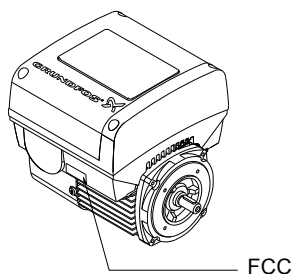

Fig. 20 FCC label
10. If the CIM module is supplied with an FCC label, then place this on the terminal box. See fig. 20.